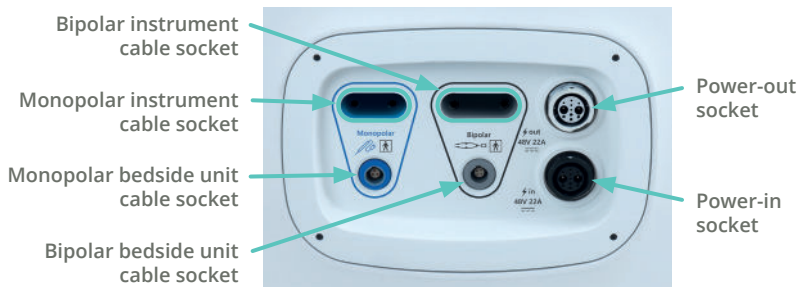

Figure 10.8 *Instrument bedside unit connection panel*
The electrosurgery cable sockets on an instrument bedside unit are found in the instrument bedside unit connection panel (Figure 10.8) located below the brake button. Figure 10.8 shows where to connect each electrosurgery cable on an instrument bedside unit.
1. The instrument bedside unit connection panel (Figure 10.8)